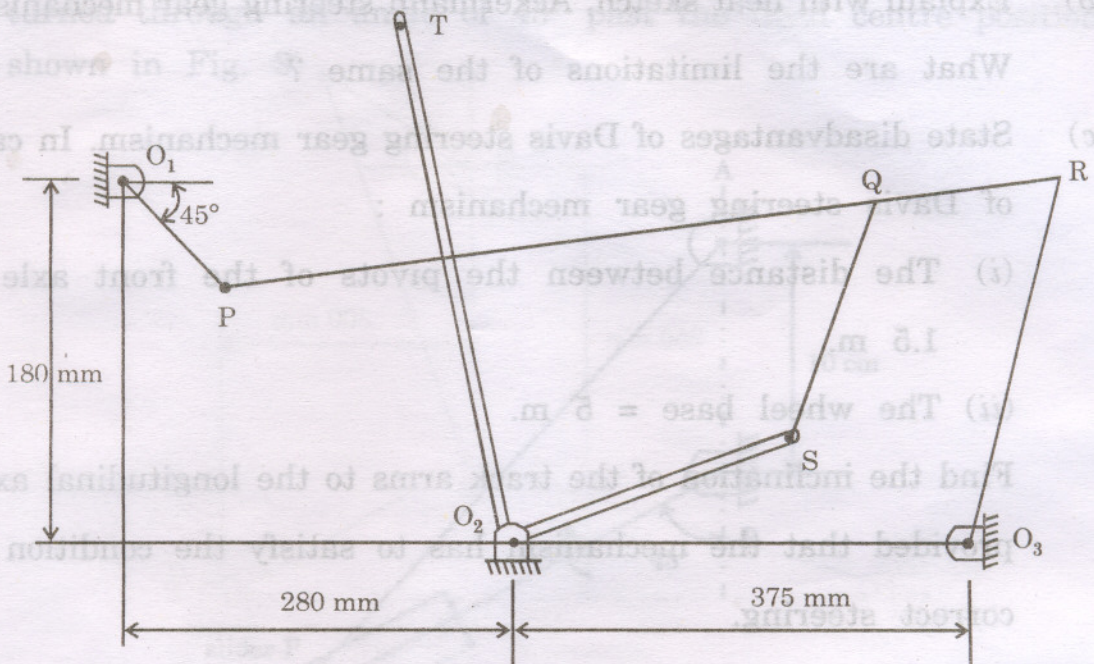

Fig. 1
- (b) Fig. 1 shows a mechanism for a wrapping machine, in which pins O_1 , O_2 and O_3 are fixed. The crank O_1P is a driving crank rotating at uniform speed of 50 rad/s. The dimensions of the mechanism are : [12]